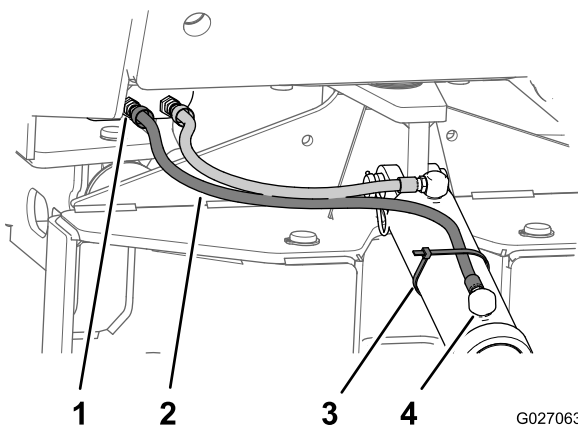

Figure 41
4. Connect the lift cylinder retract hose (3/8 x 31-1/4 inch) between the bulkhead fitting for the lift cylinder retract circuit at the right-hydraulic panel. and the retract port of the lift cylinder (Figure 41).
7. Secure the retract hose to the lift cylinder with a cable tie (Figure 41).